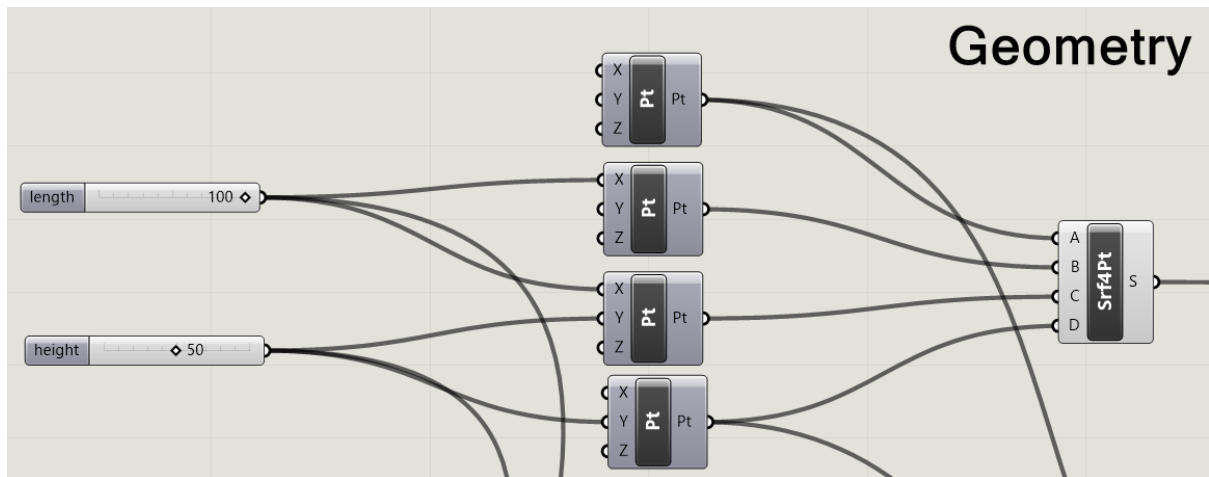

Figure 6 – Definition of the Design Domain within Grasshopper
- > Within Grasshopper, zoom into the area containing the Geometry component (top left, Figure 6).